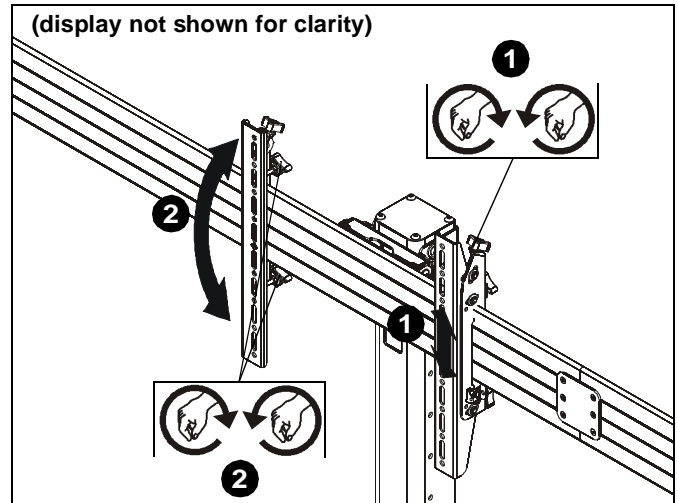

Figure 16
1. Use upper knob on back of interface brackets (Y and Z) to adjust the height of each display. (See Figure 16)
2. Use middle and lower knobs on back of interface brackets (Y and Z) to make plumb adjustments to each display. (See Figure 16)